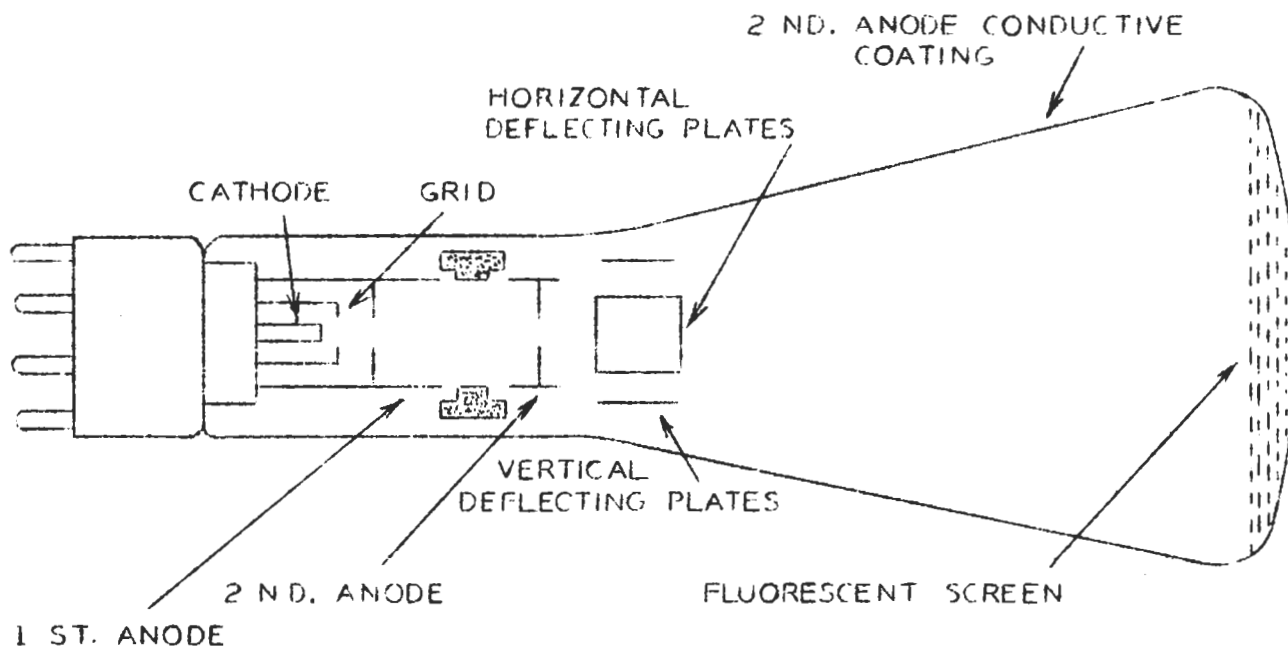
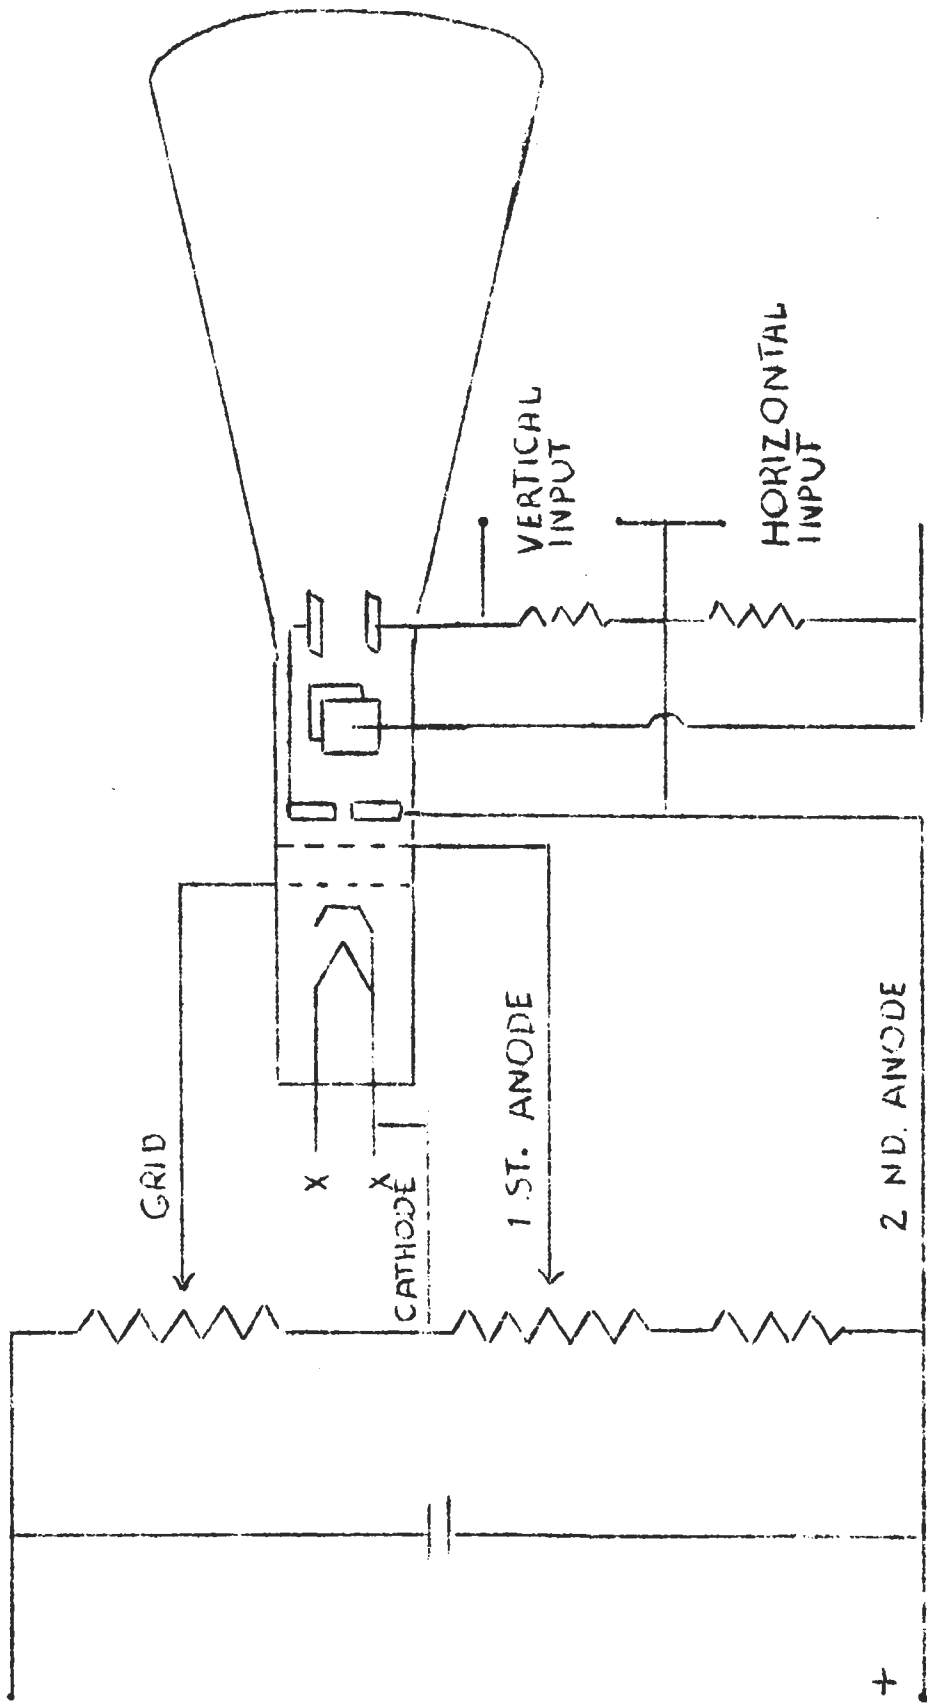

FIG. 9-4 —
FIG. 10-4—SCHEMATIC OF A SIMPLE CATHODE-RAY OSCILLOSCOPE
The cathode-ray tube is shown diagrammatically in Fig. 9-4 and the schematic of a simple cathode-ray oscilloscope in Fig. 10-4. A modern cathode-ray tube consists of six principal parts contained within an evacuated, glass envelope: (1) a cathode for emitting electrons, (2) a grid to control the intensity of this electron stream, (3) a first anode to form the beam of electrons, (4) deflecting plates to deflect the electron beam so that voltage can be observed, (5) a second anode to accelerate this electron beam, and (6) a fluorescent screen on which to observe the image.